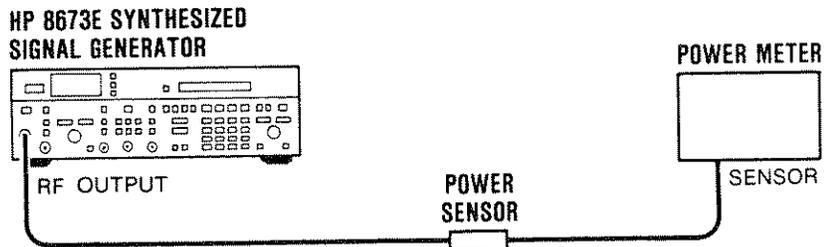

Figure 4-2. High Level Accuracy and Flatness Test Setup
2. Connect the power sensor to the RF OUTPUT connector of the Signal Generator as shown in Figure 4-2.